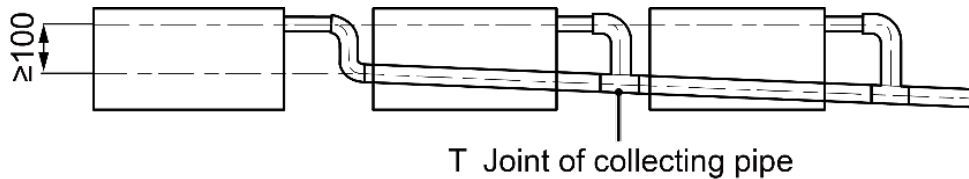

Fig.4.3.4
- (4) When connecting several drain pipes, follow the instruction as indicated in Fig.4.3.4. The gradient of the drain pipes should be at least 1%~2%. Choose the drain collecting pipe that matches with unit capacity.